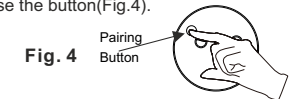

Fig. 4
Step 1: Press and hold the pairing button on the PIR sensor for 3 seconds; the green LED sensor indicator will flash slowly (flashing once per second) and then release the button (Fig.4).